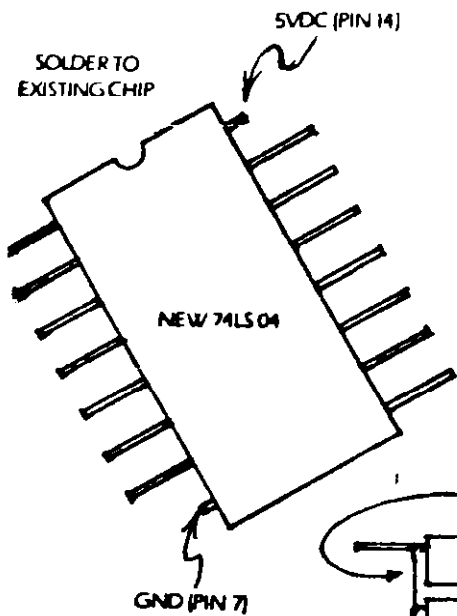

FIG. 1
**CURE 1:** Install a simple one I.C. circuit on your logic board. This I.C. may be "piggy backed" on to another 7404 series chip for power by bending up all but the two power pins so that they are parallel to the top surface of the new I.C. and then connecting the power pins only to the existing chip. (See Fig. 1) Next connect the sync wires as shown in Fig. 2. (Note: Figure 2 shows a hookup for either composite or separate syncs.)